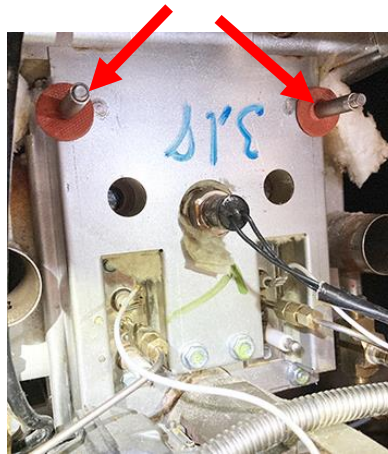

Figure 72
72. Slide the plenum gaskets and spacers over the upper shafts (see Figure 72).